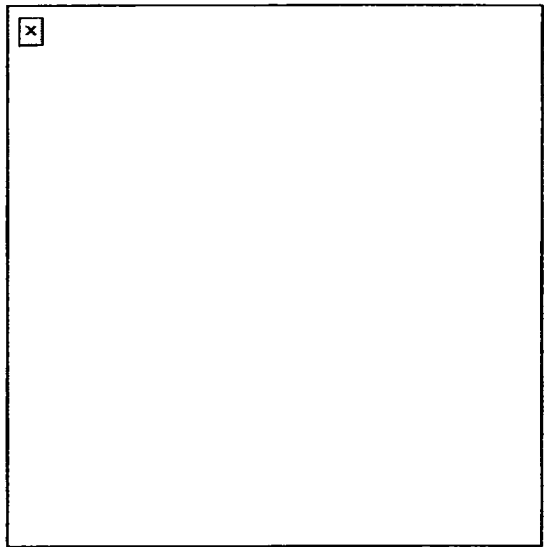

Figure 6. Sight picture and zeroed shot group.
8. During zeroing, make sure the soldier places reticle aiming point (Figure 1) on the target aiming point in the silhouette's center of mass. Figure 6 shows what a zeroed shot group should look like.